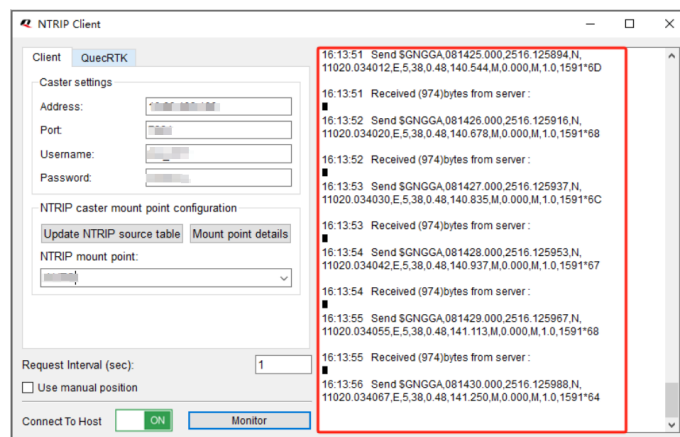

Figure 11: Successful Connection to the Server
Step 9 If configured correctly, you can see the message sent to the RTK server and the differential data received in the right box as shown in Figure 11: Successful Connection to the Server.